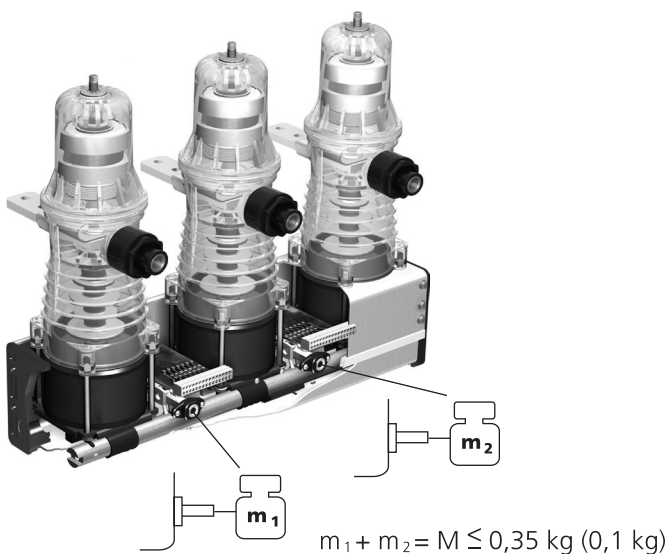

Figure 33
- If the interlocking mechanism is attached to one of the interlocking pins, the weight of the directly attached movable part to the interlocking pins shall not exceed 0.35 kg. Exception is the single phase LD series, where the attached movable part shall not exceed 0.1 kg. If both interlocking pins are used, the sum of the attached weights shall not exceed 0.35 kg or 0.1 kg for single phase (Figure 33).